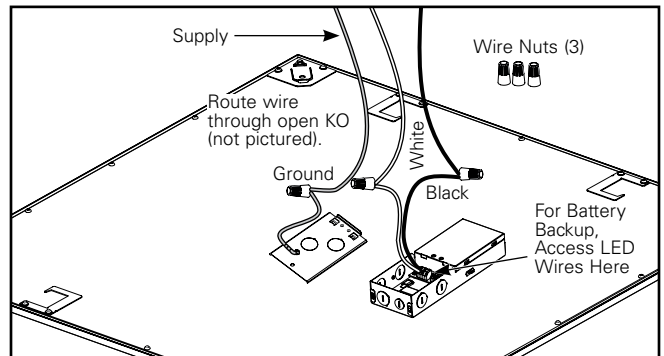

Figure 5.
7. Using the open knockout bring in the supply line. Using the three provided wire nuts to attach the ground wire to the ground supply wire, the black (line) wire to the black supply wire, and the white (neutral) wire to the white supply wire. (Figure 5.)
Note: This fixture is compatible with battery backup systems including the Surelites EBPLED7W and EBPLED14W. If using a battery backup system remove driver cover plate to access LED load wires and follow battery backup wiring instructions (Figure 5). Ensure driver cover plate is reinstalled after wiring.